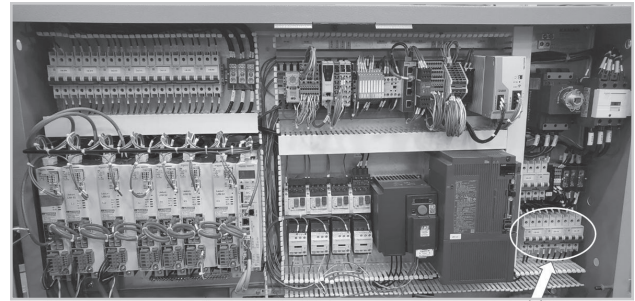

Figure 65
Step 6 – Locate the blade breaker CB202 (Figure 65)